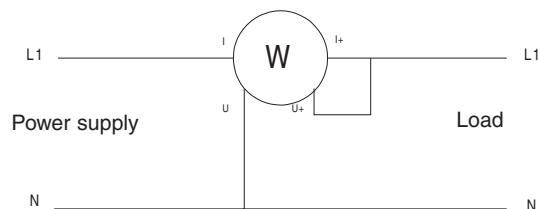
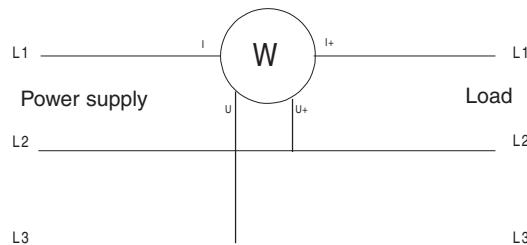

Fig 4.4.1 Single-phase connection diagram
Fig 4.4.2 Three-phase/balanced wires (T3FE) connection diagram (PX 120 only)
- Set up as indicated in the connection diagrams in Fig.4.4.1 (single phase) or Fig.4.4.2 (balanced three-phase, T3FE only PX 120), depending on the case, making sure if possible that the maximum acceptable limits are not exceeded (see table below). Range switching is automatic.
3. Set up as indicated in the connection diagrams in Fig.4.4.1 (single phase) or Fig.4.4.2 (balanced three-phase, T3FE only PX 120), depending on the case, making sure if possible that the maximum acceptable limits are not exceeded (see table below).
3. Set up as indicated in the connection diagrams in Fig.4.4.1 or Fig.4.4.2 (T3FE only PX 120), depending on the case, making sure if possible that the maximum acceptable limits are not exceeded (see table below). Range switching is automatic.